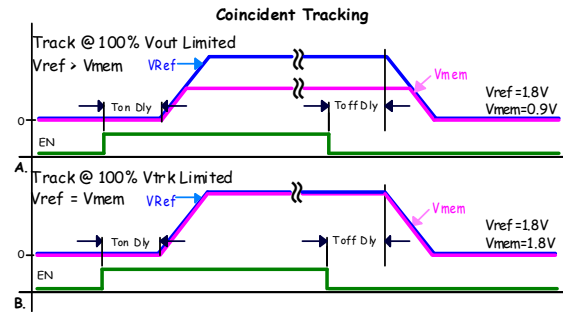

FIGURE 16. COINCIDENT TRACKING
The ZL9117M offers two modes of tracking: coincident and ratiometric. Figures 16 and 17 illustrate the output voltage waveform for the two tracking modes.
1. Track at 100% V_{OUT} limited. Member rail tracks the reference rail and stops when the member reaches its target voltage, Figure 16\(A\).
2. Track at 100% V_{TRK} limited. Member rail tracks the reference at the instantaneous voltage value applied to the VTRK pin, Figure 16\(B\).